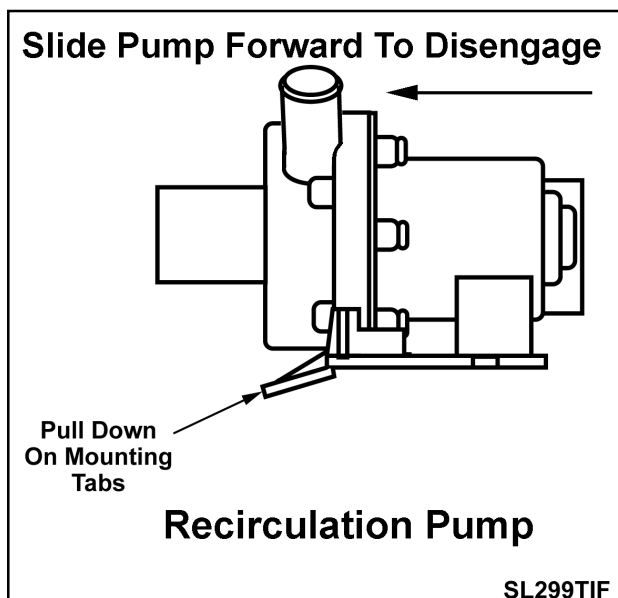

Figure 8-6
6. To remove the pump from the mounting bracket, pull down on the mounting tabs and slide the pump off the mounting bracket. (See Figure 8-6)